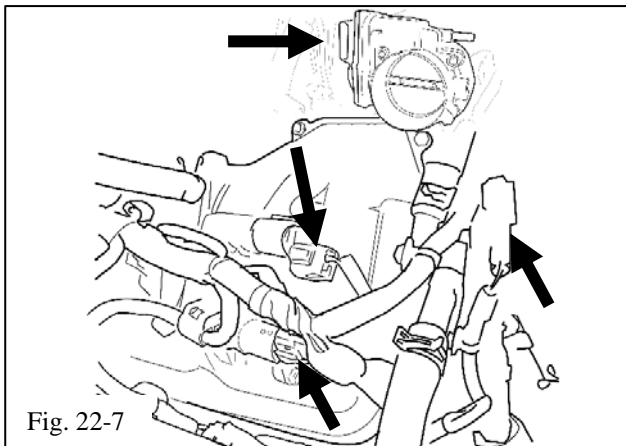

Fig. 22-7
- (m) Plug in the throttle body connector, the air injection connector, and the 2 VVT sensors (Fig. 22-7).